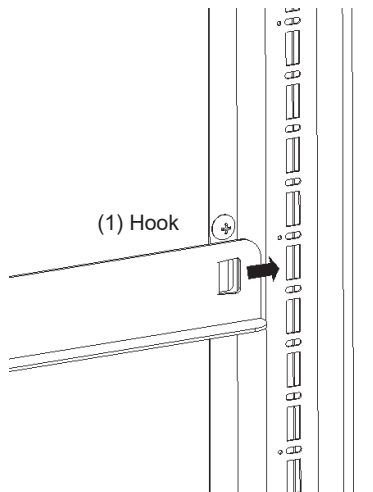

Fig. 7
* To attach the rail, (1) push the rail hook backwards to fit into the square hole in the rear shelf post, and (2) push the rail hook down to fit into the square hole in the front shelf post. To detach the rail, reverse the above procedure. See Fig. 7.